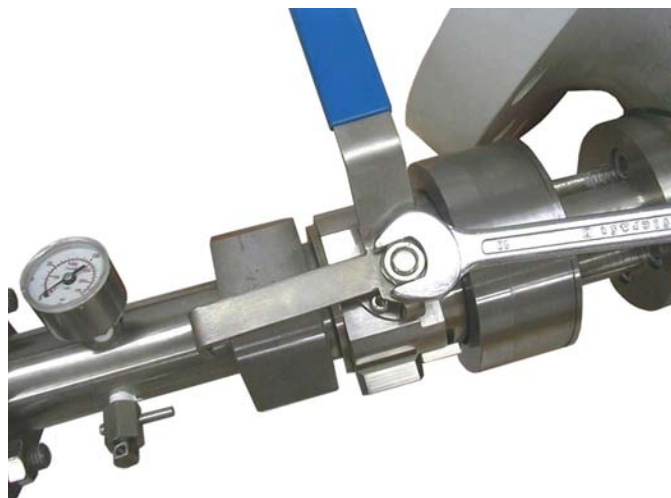

Fig. 3.17: Mounting the lever (4.1) to the ball valve (4)
- If a complete pressure equalisation is not achieved in the retraction space, the gaskets in the ball valve assembly (4) may become damaged if you continue. Defective gaskets may block the opening in the ball valve (4). In this case, the transducer assembly (1) can only be inserted after depressurisation of the pipeline section in which the measuring system is installed. Only continue if a complete pressure equalisation has been achieved.
- Check the extraction tool for leaks before you continue. Pay particular attention to the connections to the manometer (5.2) and bleed valve (5.3) at the retraction space (5.1). Avoid the risk of personal injury or damage to the equipment. Do not continue before you are absolutely sure that the extraction tool is gas-tight. If you find a leak, close the bypass ball valve (4.3) in the ball valve assembly (4) and gasket the leak. Only continue inserting the transducer assembly (1) when the extraction tool is absolutely tight.
- ▶ After pressure equalisation, close the bypass ball valve (4.3) in the ball valve assembly (4). To do so, turn the bypass ball valve in clockwise direction until it stops using a 5 mm Allen key.
- ▶ After the safety check, remount the lever (4.1) to the ball valve (4) (see **Fig. 3.17**).